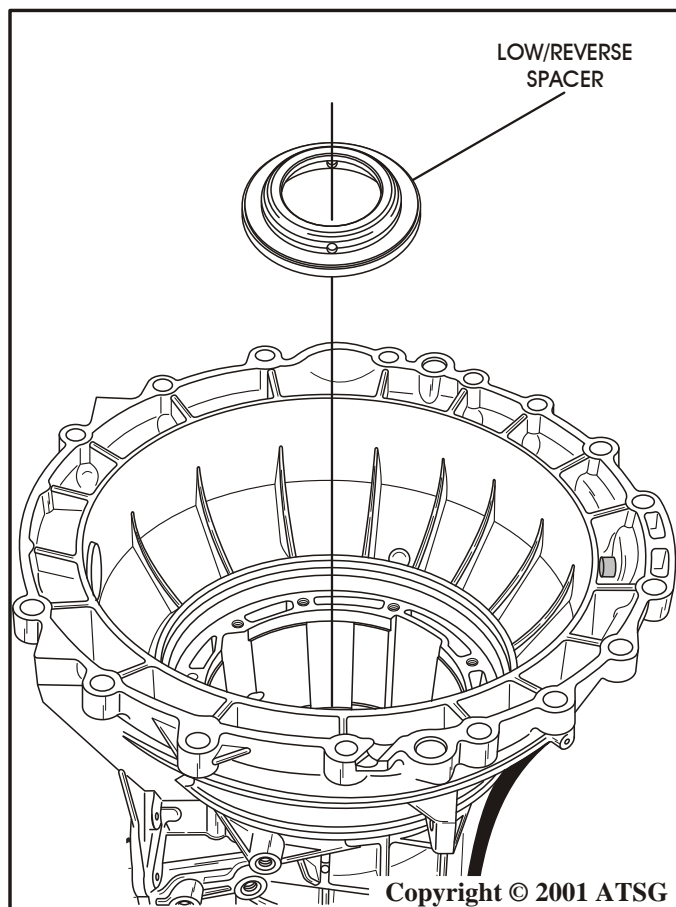

Figure 147
18. Install the low/reverse spacer on top of the rear planetary thrust bearing (No 8), in the direction shown in Figure 147, and retain with a small amount of Trans-Jel®.